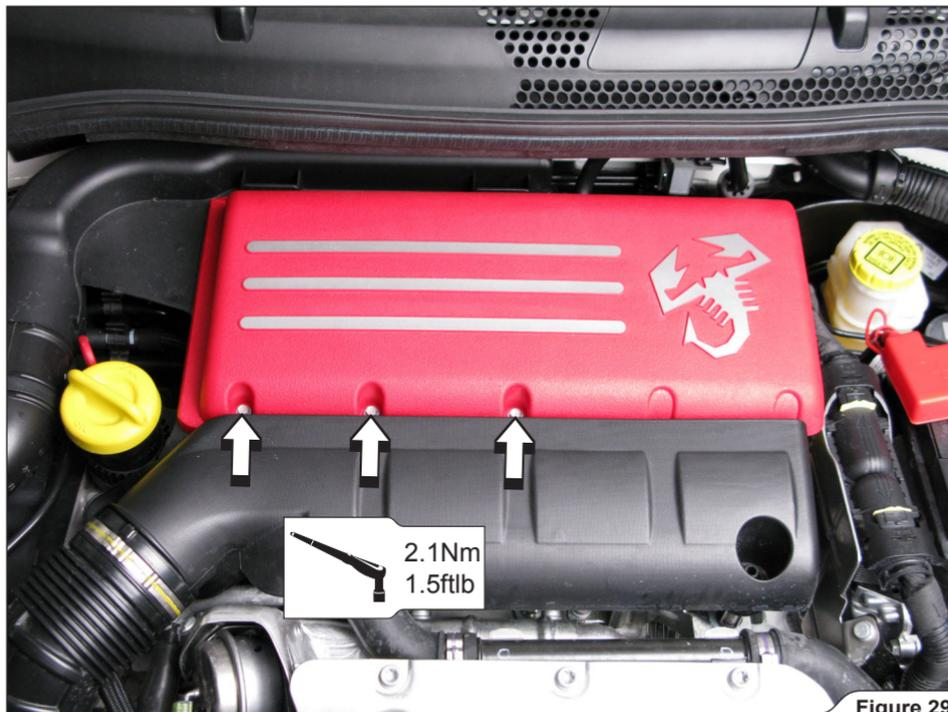

Figure 29
24. For optional wireless kit only: reinstall the engine cover (Figure 29).